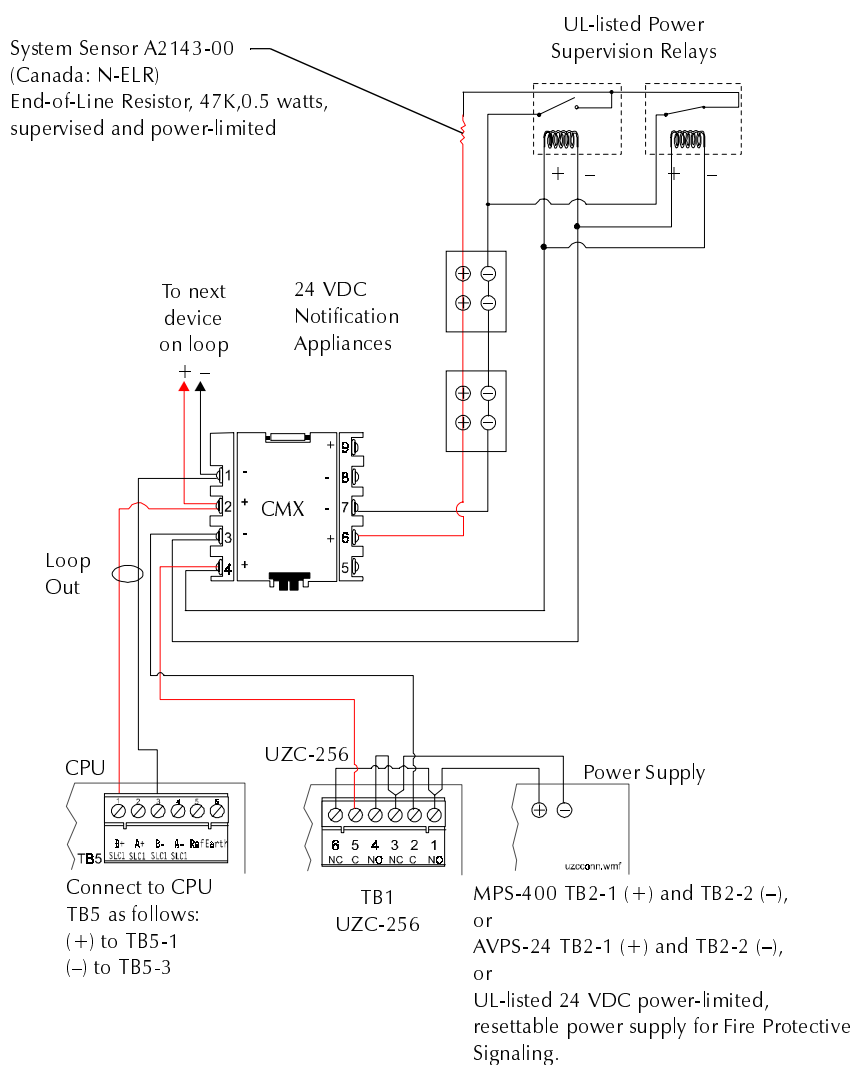

Figure 5-15 UZC-256 Connections to CMX Modules
3. Connect notification appliance power devices as shown in Figure 5-15.
Figure 5-15 shows typical connections between the UZC-256 and NACs: